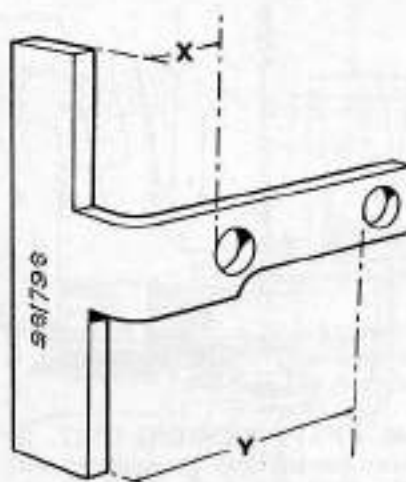

Fig. 223—Adjusting gage (DB-961796) for hydraulic control mechanism. Dimension "X" is 11.1 mm (0.437 inch); dimension "Y" is 60.1 mm (2.366 inches).
**401. THREE POSITION SELECTOR DIAL.** Special tool DB-961796 (Fig. 223) is required to adjust selectamatic control valve to rockshaft bracket. Install stop plate (5—Fig. 224) and all shims (4) which were removed during disassembly of selectamatic valve making certain shims and plate are properly seated. Install valve on rockshaft bracket and select **EXTERNAL** position on selector dial. Fit pin for rocker shaft into top hole of special tool and push tool downward until it is against shoulder of rockshaft bracket. See Fig. 224. Hold rocker (3—Fig. 224) against stop plate and use a feeler gage (1) to measure gap between rocker and spool valve end. Add or remove shims (4) as necessary to obtain 0.25-0.51 mm (0.001-0.003 inch) clearance. Make certain stop plate and shims are on their seat and screw (6) is tight.